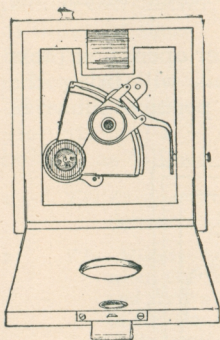

FIG. 2—SHUTTER SET FOR
2. Then keeping the cord taut press the button and raise the shutter by the cord $\frac{1}{4}$ inch, then take the finger off the button and continue raising the shutter until it catches in the first notch, this will bring it into the position shown in figure 2.
The shutter is kept in the position shown in Fig. 2 all the time when used for time exposures. The opening and closing of the lens being effected by the plug.
3. The shutter is now set in the position shown in Fig. 2, with the cap or plug in its place.